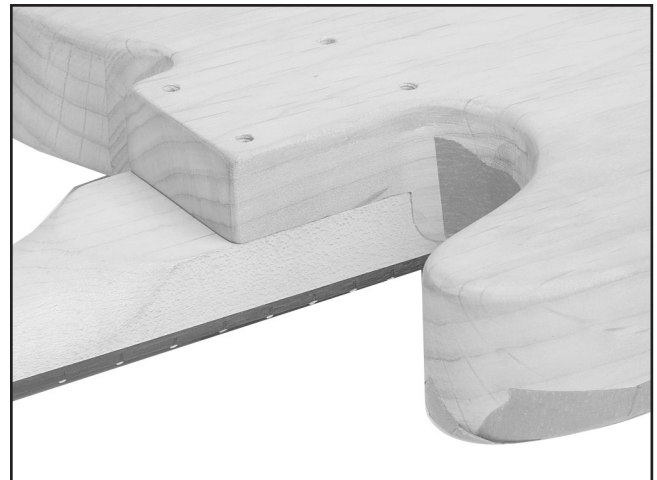

Figure 9. Making neck and body flush.
1. Insert the neck into the neck pocket, and check to make sure the neck and body are flush as shown in **Figure 9**.